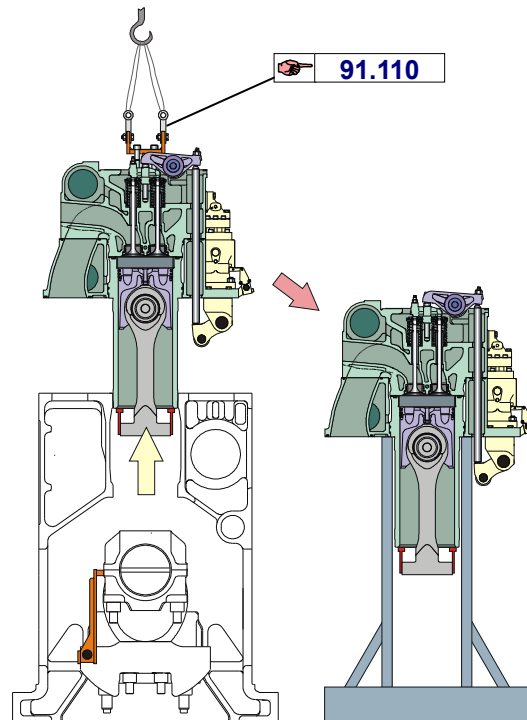

Fig. 4 Place the cylinder unit on the stable working stand (실린더 유니트를 작업대에 내려놓음)
15. Move and place the cylinder unit on a stable working stand (Optional) as shown in fig 4.